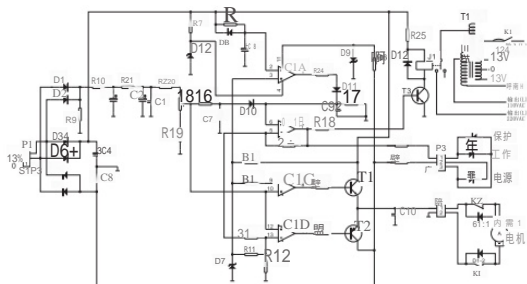

Figure 2 Single-phase: 0.5-1.5kVA electrical principle
2.4.1 The electrical schematic diagram of single-phase 0.5kVA~1.5kVA high-precision automatic AC voltage stabilizer is shown in Figure 2 (for reference only).
Electrical schematic diagram Fig. 2, Fig. 5.